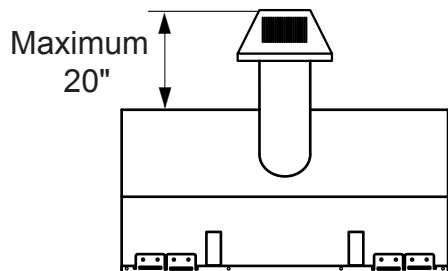

Figure 11 - Rear Vent Application, Maximum Horizontal Distance
- The maximum horizontal distance between the rear of the appliance and the outside of termination is 20" (508 m). See Figure 11.
1. Locate and cut the vent opening in the wall. For combustible walls first frame in opening. See Figure 11.
3. Attach vent pipe assembly to the fireplace. Set fireplace in front of its permanent location to insure minimum clearances. Mark the wall for a 9 "H x 9"W (229mm x 229mm) rectangle hole (for noncombustible material such as masonry block or concrete, a 7½" [190mm] diameter hole is acceptable). See Figure 11. The center of the hole should line up with the center line of the horizontal rigid vent pipe end. Be sure to allow for minimum rise.